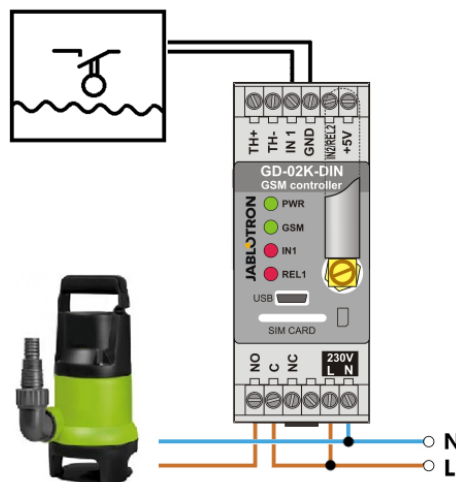

Figure 3: Monitoring of the maximum water level in a tank, including automatic water draining using a water pump.
- This diagram shows the connection of a level sensor to the IN1 and GND inputs. The REL1 power output switches the 230 V to power the water pump, see Figure 3.